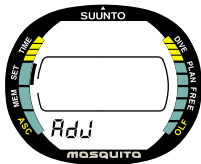

Fig. 4.13. Adjustment Mode.
1. In the Setting Mode [SET], press **S** five (5) times to select the Altitude, Personal and Unit Adjustment Mode (Fig. 4.13.).